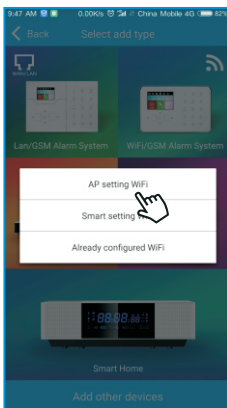

Fig. 5-11
Step 1: Log in to the registered account, enter the device add interface - WiFi/GSM alarm System, select "AP setting WiFi". (Fig. 5-11)